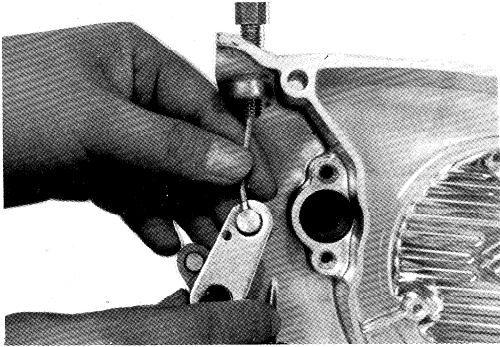

Fig. 5-4-16
17. Unhook the clutch release screw arm spring, and then release the end of the clutch cable inner from the clutch release screw lever. (Fig. 5-4-16)